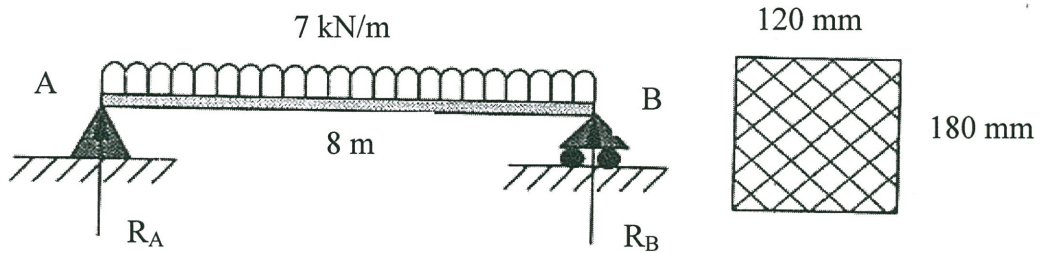

Figure Q3(c)
- (a) List **five (5)** types of beam. (5 marks)
- (c) The beam cross-section 120 mm X 180 mm and a length of 8 m is located at the support pin at A and a roller support at B. The beam carries a uniformly distributed load of 7 kN/m as shown in Figure Q3(c). Calculate the following: